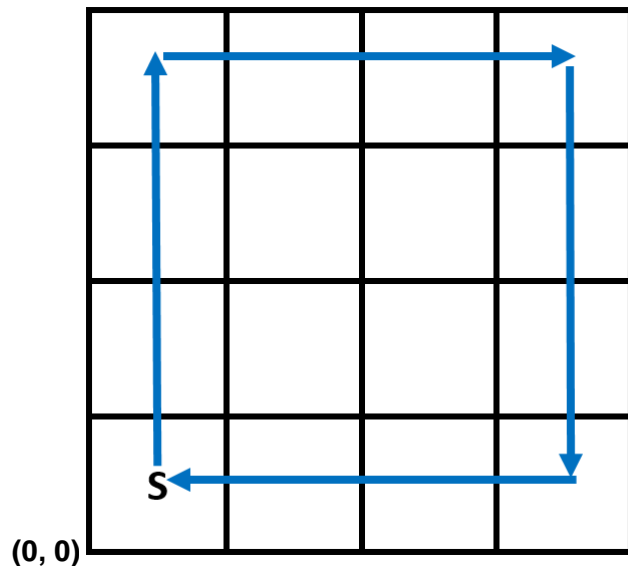

Figure 3. 3-by-3 tile trajectory using SquareDriver.
- The **zero values for (X, Y), i.e. (0,0), must respect the convention shown in Figure 3.**
The TA will ask you to run your robot off the center of a tile, as shown by **S** in Figure 3 (the exact X/Y placement is not critical, as the correction should compensate). The robot should then follow the 3-by-3 tile square trajectory using SquareDriver. The robot should work using odometry correction. Throughout the demo, the TA will observe the reported (**X**, **Y**, **θ**) values on the robot's LCD screen. When the robot stops at the final position (**X_F**, **Y_F**) near **S**, the final readings on the LCD screen (**X**, **Y**, **θ**) are used to evaluate the odometers accuracy and calculate the error distance ϵ as:
3. Measure its resulting signed X_F and Y_F position with respect to the origin **(0,0)** in Figure 3.